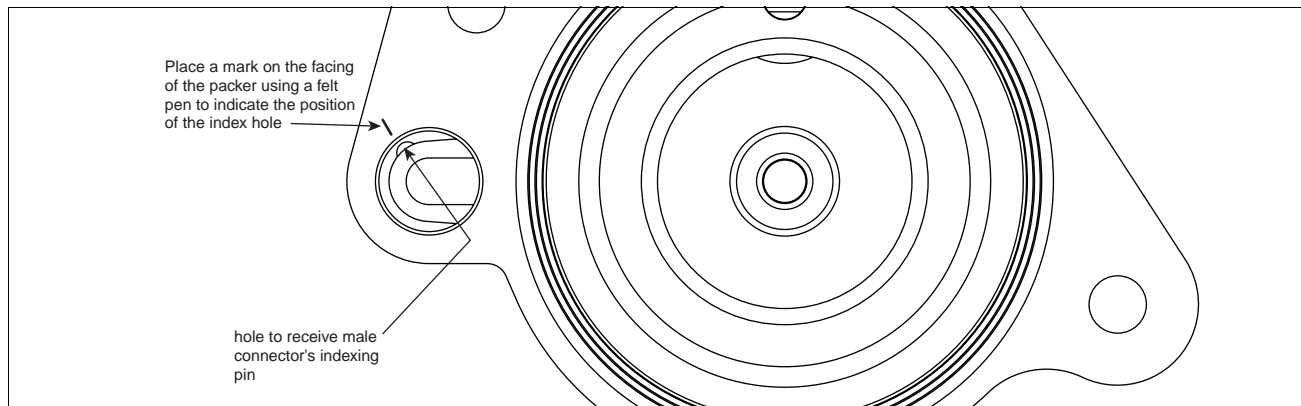

Figure 40. Male connector index hole in base of socket
9. The indexing pin on the back of the connector must seat in the index hole in the base of the male connector's socket (see Figure 40) for the connector to be correctly oriented relative to the female connector.